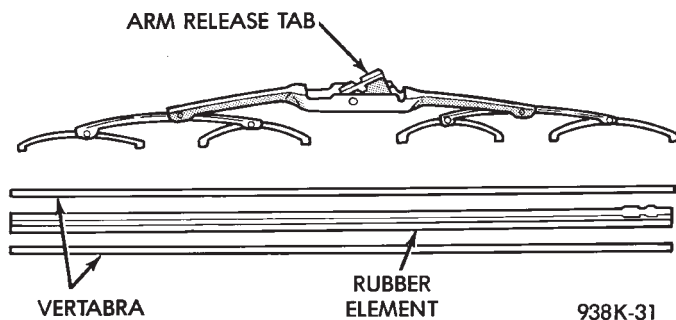
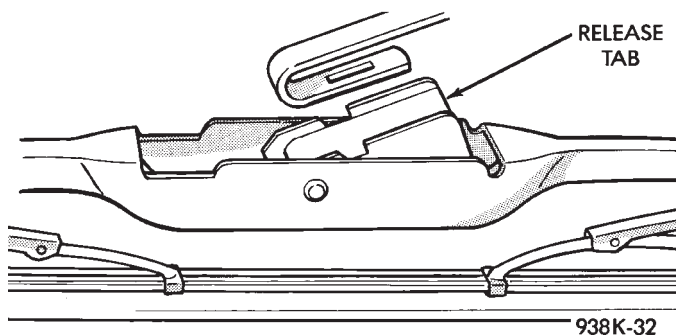
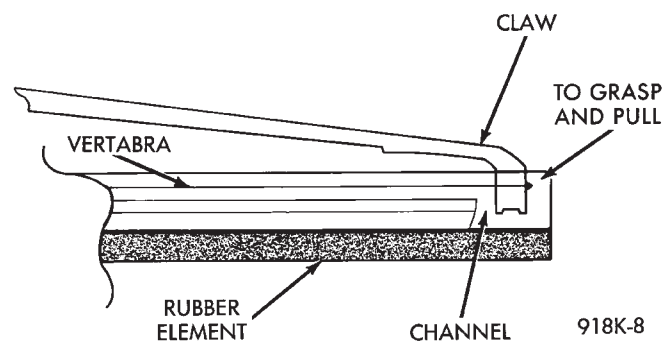

Fig. 17 Wiper Blade and Element
Fig. 18 Remove Blade from Arm
Fig. 19 Wiper Blade and Element
(1) Turn wiper switch ON, position blades to a convenient place by turning the ignition switch ON and OFF. When in position turn ignition switch OFF.
(2) Lift wiper arm to raise blade off glass.
(3) Remove blade assembly from arm by pushing release tab under arm tip and slide blade away from arm tip (Fig. 17) and (Fig. 18). The vertebra is curved on the right blade only. Install with the curve matching the shape of the windshield.
(4) Gently place wiper arm tip on glass surface.
(1) Lift wiper arm to raise blade off glass.
(2) Remove blade assembly from arm by pushing release tab under arm tip and slide blade away from arm tip (Fig. 17) and (Fig. 18). Gently place wiper arm tip on glass surface.
(3) To remove wiping element from blade assembly:
- Pull stopper, of the rubber element, out of the end claw together with vertebra (metal rails) (Fig. 19).